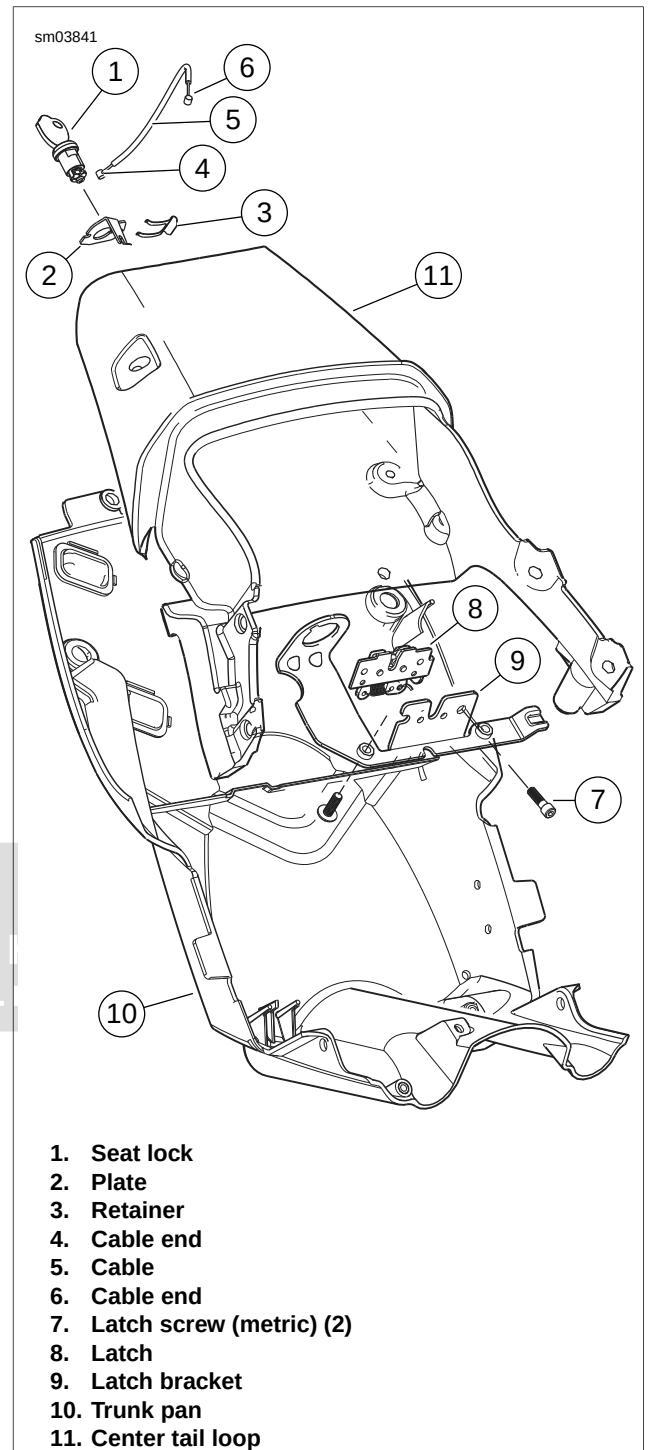

Figure 2-204. Seat Lock Assembly: Ulysses
3. See Figure 2-204. Disconnect seat lock cable (5):
- a. Remove latch (8) from latch bracket (9) by removing two fasteners (7).
- b. Remove cable end (6) and cable (5) from latch (8).
- b. Remove seat lock retainer (3) from seat lock (1).
- c. Remove seat lock (1) from plate (2) and license plate bracket.
1. See Figure 2-204. Install cable (5) into plate (2).
2. Install the seat lock (1) into license plate bracket and plate (2).